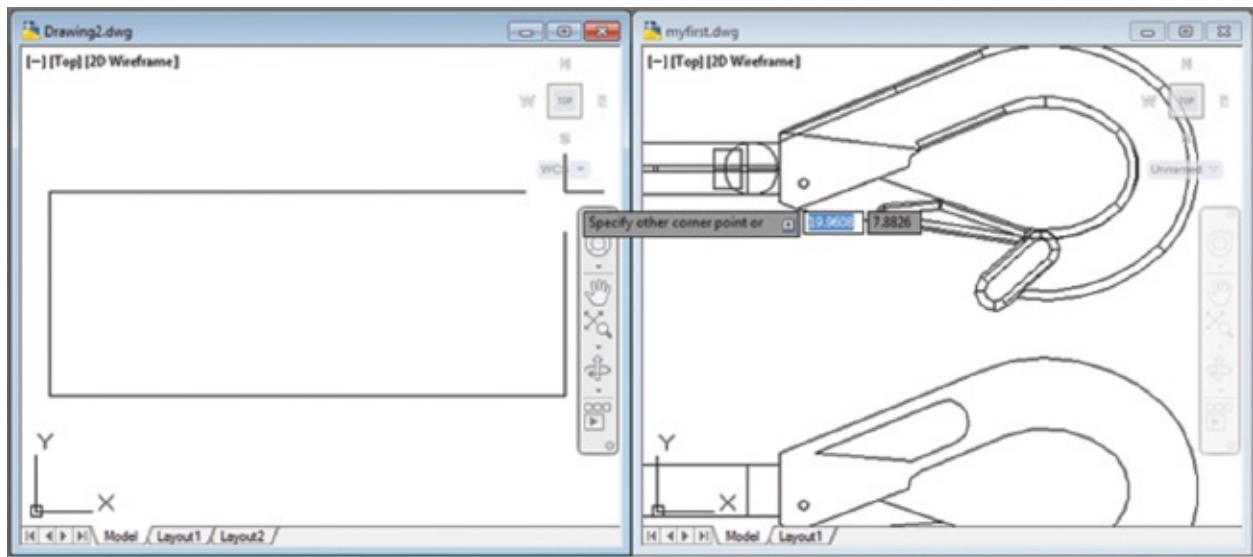

FIGURE 1.27 After you've selected the first point of the rectangle, you'll see a rectangle follow the motion of your mouse.
3. Click another point anywhere in the upper-right region of the drawing area, but avoid getting too close to the ViewCube (see Figure 1.27). A rectangle appears. If you happen to accidentally open the ViewCube context menu, press Escape once and you will be able to position the corner. You'll learn more about the different cursor shapes and what they mean in Chapter 2.